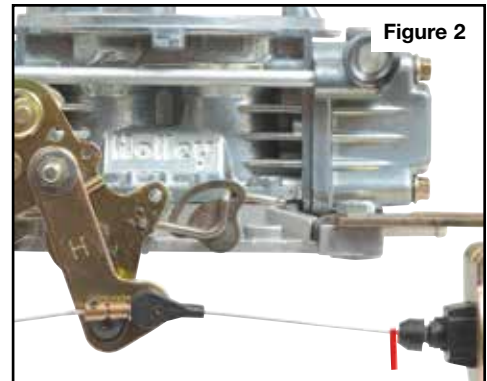

Figure 2
5. **Checks and Verification:** With the throttle in the idle position, mark the cable where it enters the cable housing. Rotate throttle arm and hold in the wide-open throttle position with the cable pulled out of the cable housing. Measure distance between mark on cable and cable housing. Distance should be 1.48" (1-31/64") for the GM 4L60 and Ford AOD (**Figures 2 & 3**, page 2).
9. **Checks and Verification:** With the throttle in the idle position, mark the cable where it enters the cable housing. Rotate throttle arm and hold in the wide-open throttle position with the cable pulled out of the cable housing. Measure distance between mark on cable and cable housing. Distance should be 1.40" (1-13/32") for the GM 200, 200-4R and 200C (**Figures 2 and 3**).
6. **Checks and Verification:** With the throttle in the idle position, mark the cable where it enters the cable housing. Rotate throttle arm and hold in the wide-open throttle position with the cable pulled out of the cable housing. Measure distance between mark on cable and cable housing. Distance should be 1.40" (1-13/32") for the GM 200, 200-4R, 200C (**Figures 2 and 3**).